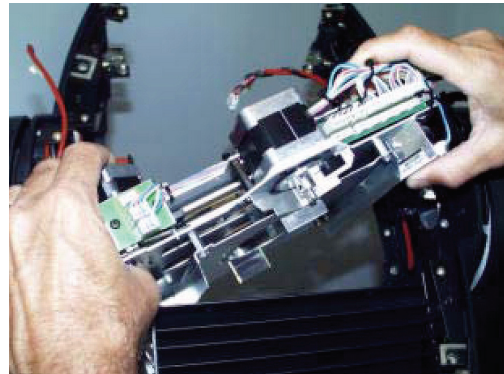

Figure 68
75. See Figure 68. Hold the new CMY module (P/N 55205110) supplied with the Upgrade Kit at an angle, with the right-hand side higher and further forward than the left, and lower the module into the chassis. Bring the module square to the chassis, making sure that the mounting screw flaps in the top and bottom of the module locate *over* the plates with the mounting screw holes in the head chassis, and slide the module in towards the back of the head. Align the mounting screw holes and fasten the module into the head at the top and bottom with the four screws you removed in step 47. Do not plug in connectors yet.